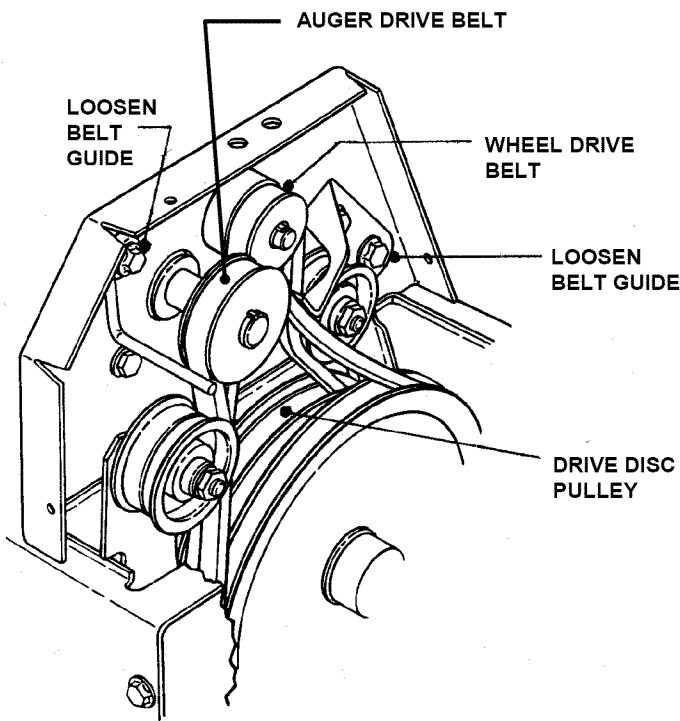

FIGURE 4.4
3. Loosen both auger/impeller belt guides. See Figure 4.4.
4. Remove auger drive belt from around engine pulley. See Figure 4.4.